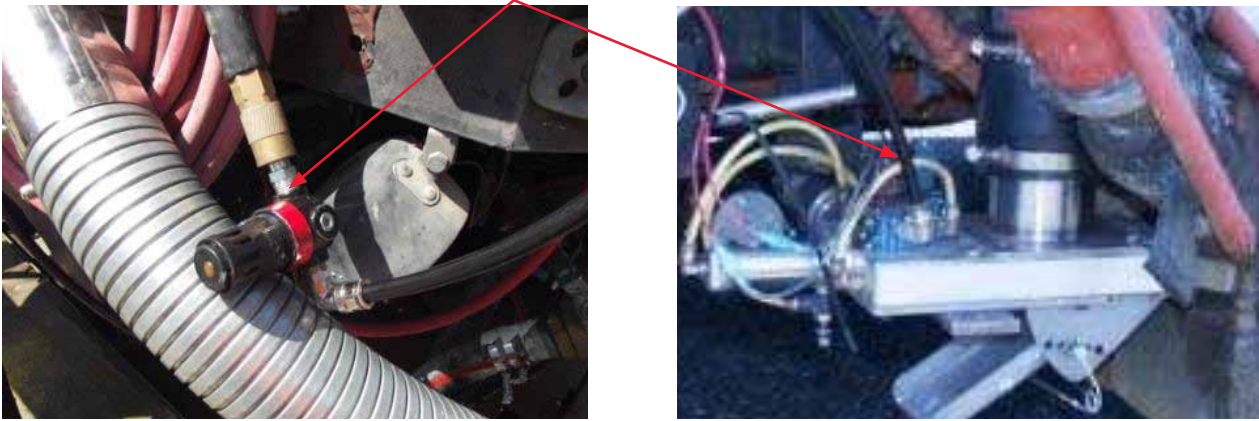

Figure 4
10. Connect an air source regulated to 75-80 psi. Excessive pressure can damage the dispenser. Install an inline pressure regulator if needed (Fig.4).